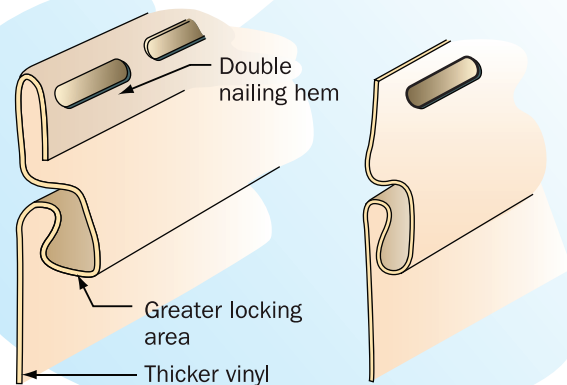

Figure 1. Features of typical high-wind siding and standard siding.
- Products that have been rated for high winds typically have an enhanced nailing hem and are sometimes made from thicker vinyl (Figure 1). Thick, rigid panels provide greater wind resistance, withstand dents, and lie flatter and straighter against the wall. Optimum panel thickness should be 0.040" to 0.048", depending on style and design. Thinner gauge vinyl works well for stable climates; thicker gauge vinyl is recommended for areas with high winds and high temperature changes.